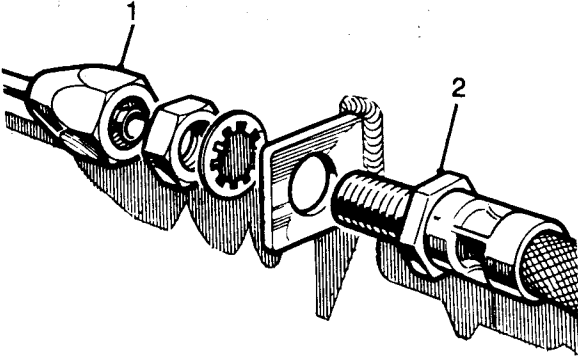

Fig J1.15
- (6) Refer to Fig J1.15. Replace the flexible brake hose (2) into the chassis bracket and reconnect the rear brake pipe (1).